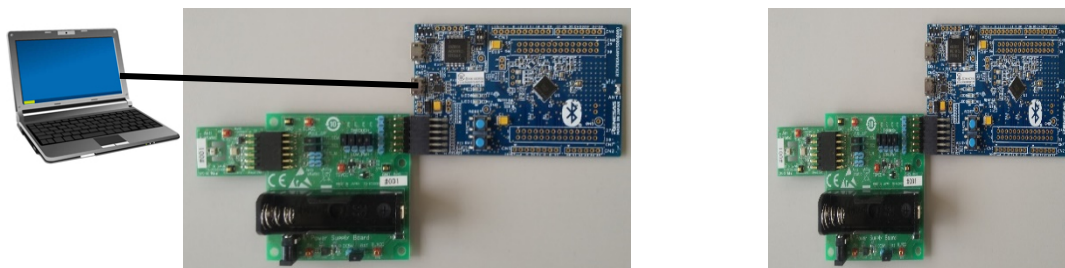

Figure 5-4 Connection environment with GUI
- Connect the sensor board and power supply board to EK-RA4W1 with the connection shown in Figure 5-4.